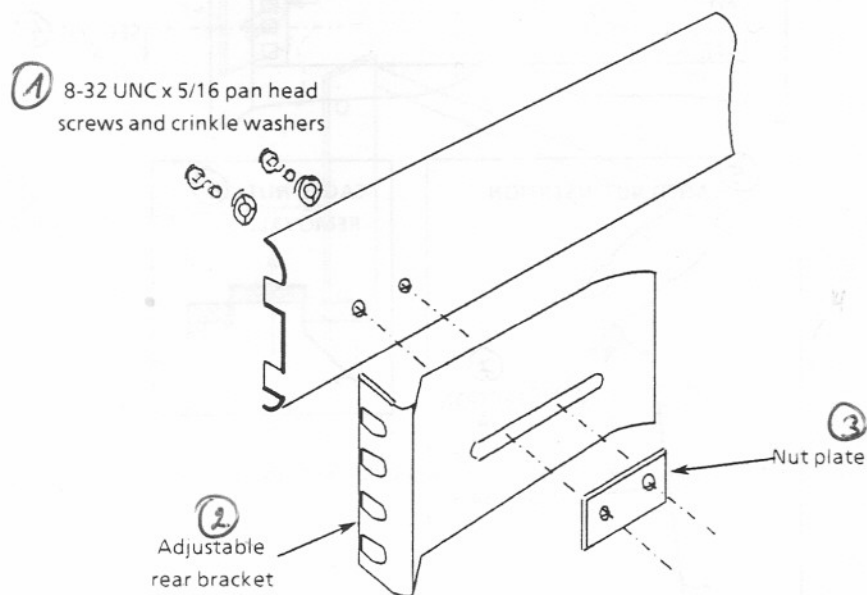

Fig. 2.5 Fitting a rear bracket
4.3.3 Fit the following items to the telescopic slide outer members, as shown in Figs. 2.5 and 2.6: